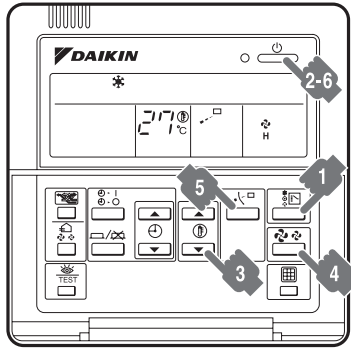

figure 4
FOR SYSTEMS WITHOUT COOL/HEAT SELECTOR (Refer to figure 4)
FOR SYSTEMS WITH COOL/HEAT SELECTOR (Refer to figures 4 and 7)
- 2 Press the on/off button. (Refer to figure 4) The operation lamp lights up and the system starts operation.
ADJUSTMENT (Refer to figure 4)
STOPPING THE SYSTEM (Refer to figure 4)